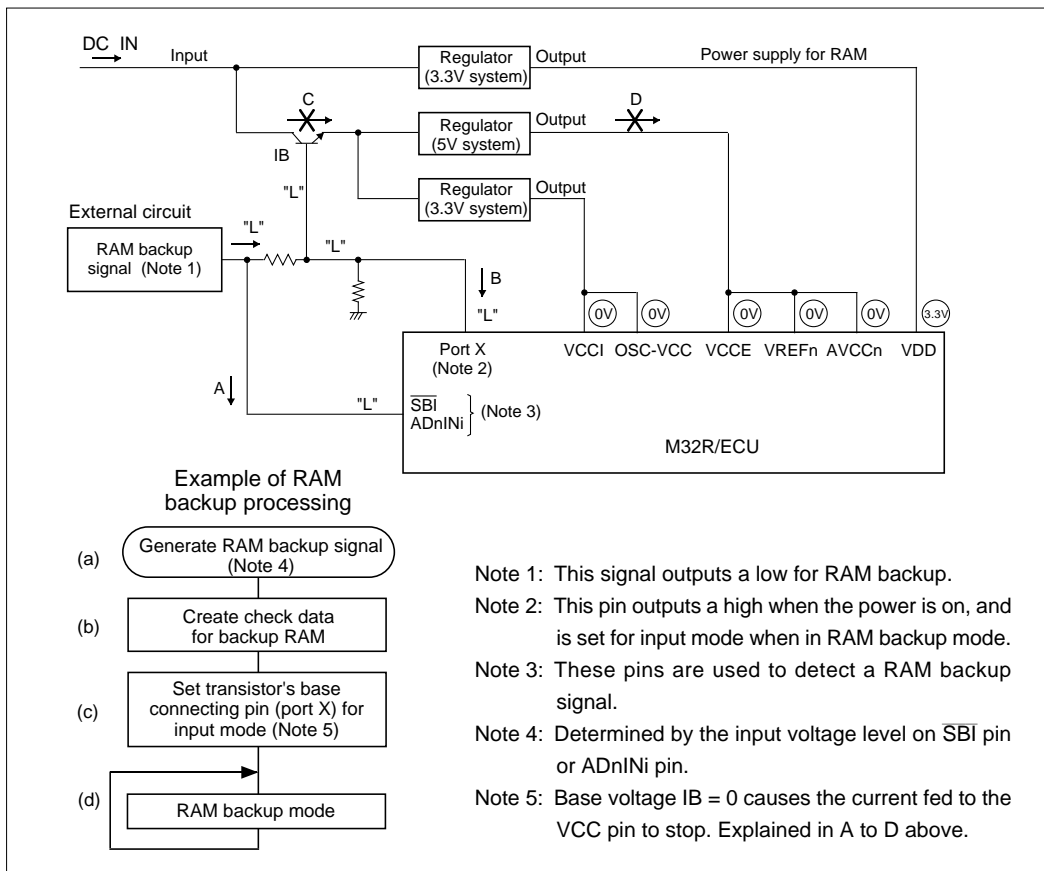
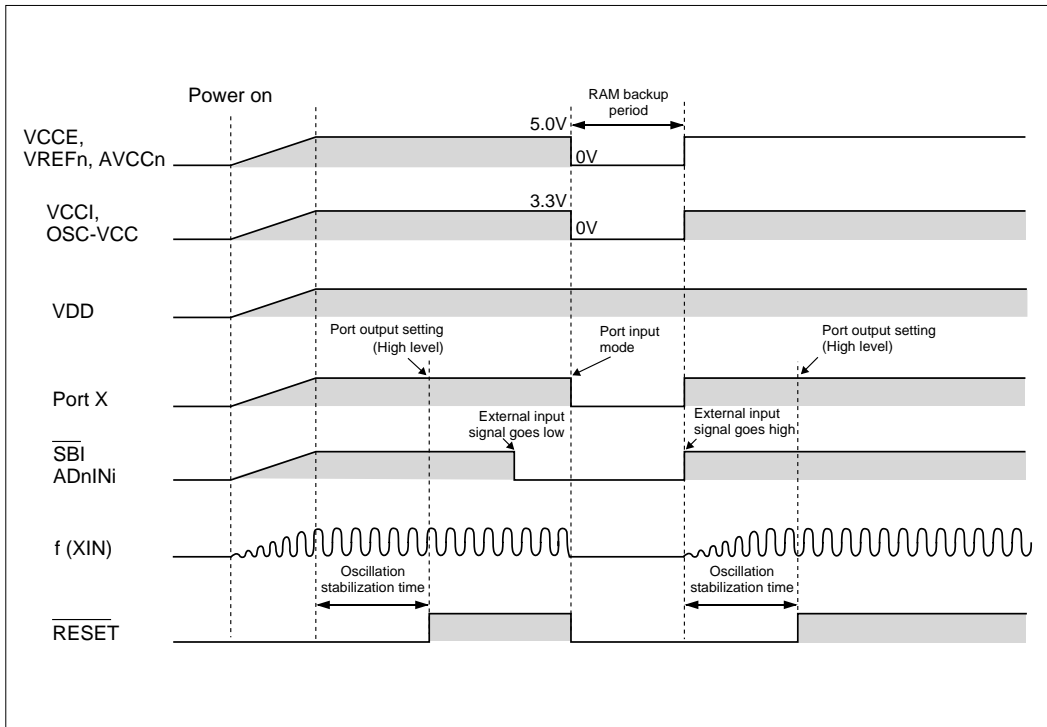

Figure 17.3.3 RAM Backup State for Low-Power Operation
Figure 17.3.4 Example of RAM Backup Sequence for Low-Power Operation
Figure 17.3.3 shows the RAM backup state of the M32R/ECU. Figure 17.3.4 shows a RAM backup sequence. When the external circuit outputs a low, input on the  $\overline{\text{SBI}}$  pin or ADnINi pin goes low. A low on these input pins generates a RAM backup signal (A and (a) in Figure 17.3.3). To enable RAM backup mode, make the following settings.
- (1) Create check data to verify after returning from RAM backup to normal mode whether the RAM data has been retained normally ((b) in Figure 17.3.3).
- (2) To materialize low-power operation, set all programmable input/output pins except port X for input mode (or for output mode, with pins outputting a low) ((c) in Figure 17.3.3).
- (3) Set port X for input mode (B and (d) in Figure 17.3.3). This causes the transistor's base voltage, IB, to go low, so that no current flows from the power supply to the VCC pin via the transistor (C in Figure 17.3.3). Consequently, the power to the VCC pin is shut off (D in Figure 17.3.3).
Due to settings in (1) to (3), the voltage applied to the VDD pin becomes  $3.3\text{ V} \pm 10\%$  and voltages applied to all other pins drop to 0 V, thus placing the M32R/ECU in RAM backup mode ((d) in Figure 17.3.3).